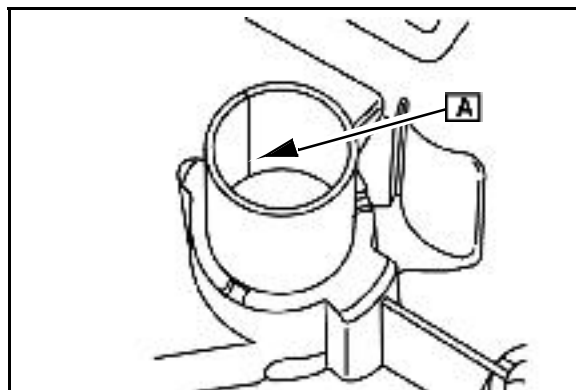

Fig. 30
- Place split of bearing seam ([A] Fig. 30) as shown.